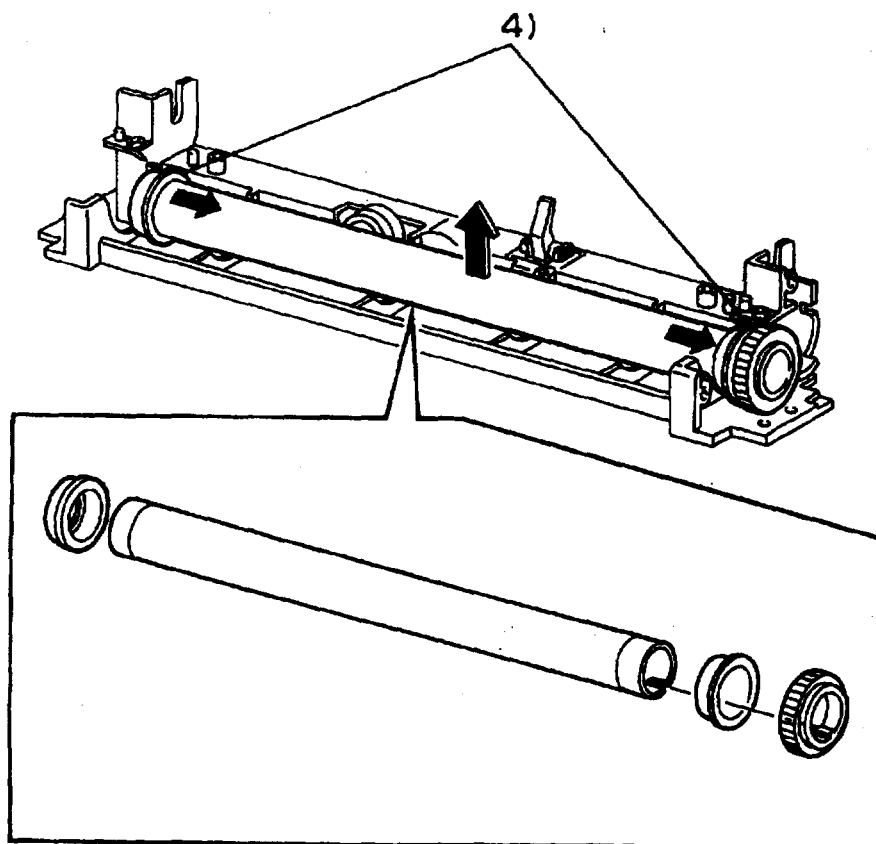

Figure 4-23. Removing the Heat Roll
5. Remove the Heat Roll Drive Gear (Figure 4-23).